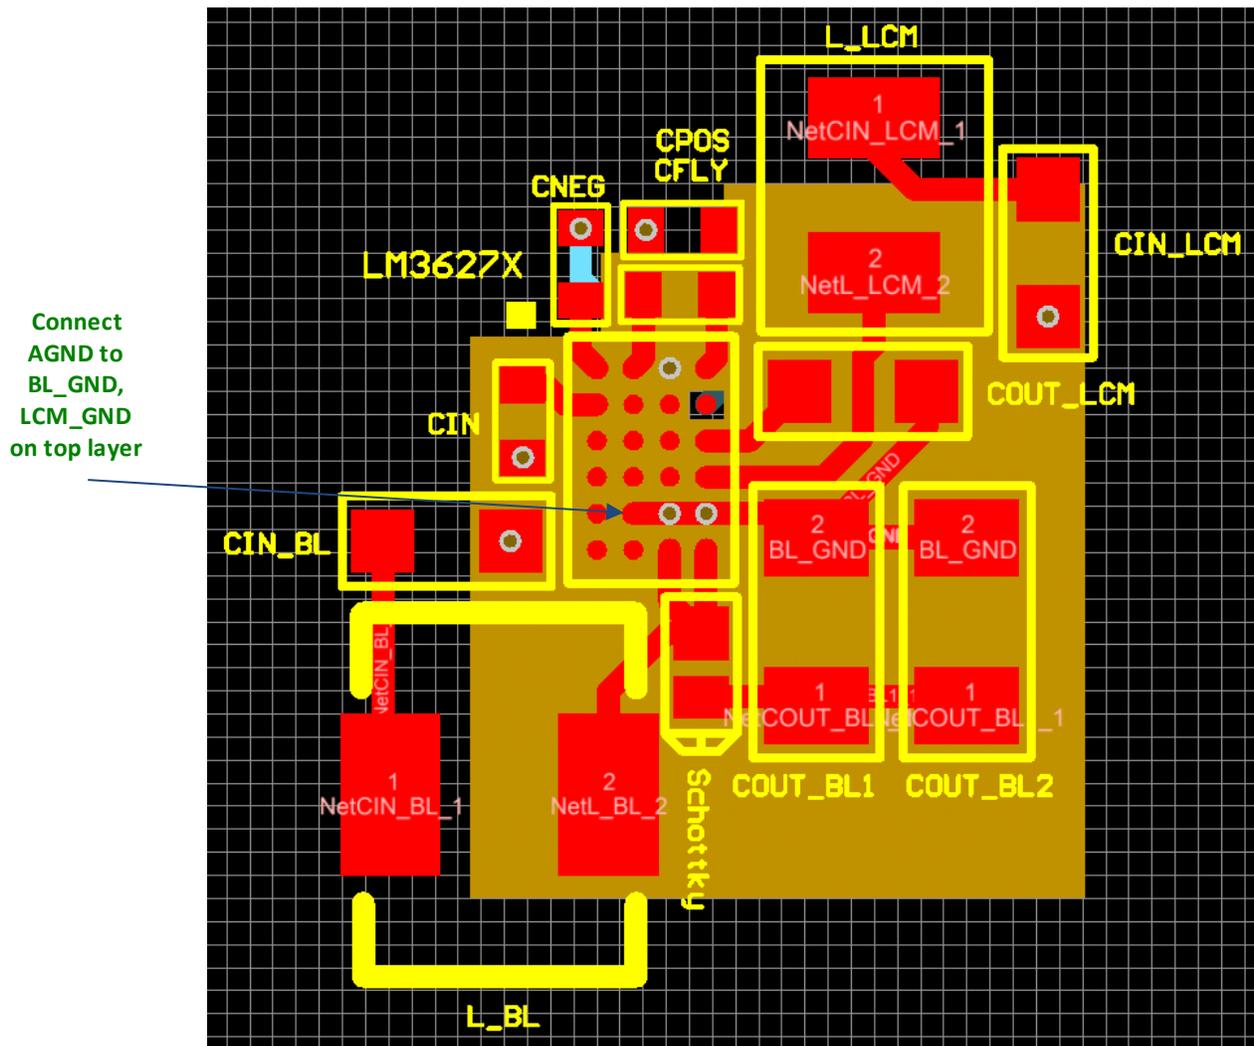

Figure 14. Connecting AGND to the Power Ground (BL\_GND and LCM\_GND)
13. Connect AGND to the LCM\_GND, and BL\_GND. AGND can connect directly to LCM\_GND on the top layer (as shown in Figure 14) or AGND can connect directly to the lower level GND plane along with LCM\_GND and BL\_GND. The important thing to ensure is that the return current of the power devices (COUT\_BL, COUT\_LCM, CIN\_BL, CIN\_LCM, CIN, and CP\_GND) have a low impedance path back to BL\_GND and LCM\_GND. This path should not share any current between AGND and the LCM\_GND/BL\_GND connection.